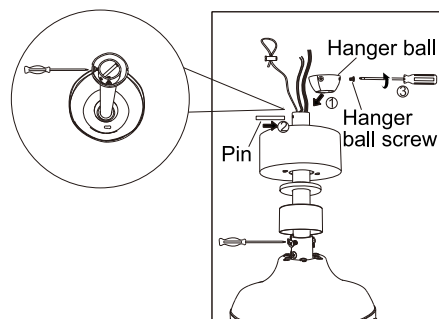

Figure 1.4
- Attach the hanger ball to the down rod with the wires running through it. Position the pin through the two holes of the down rod and align the hanger ball so that the pin is caught in the groove at the top of the hanger ball. Pull the hanger ball tightly onto the pin. Securely tighten the hanger ball screws inside the hanger ball. A loose hanger ball screw may cause the fan to wobble. (Figure 1.4)